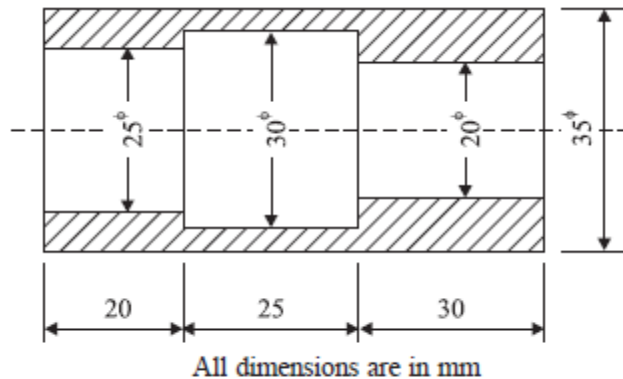

Fig. 3
- 8 (a) Estimate the time required on a shaper to machine a plate 600 mm × 1,200 mm, if the cutting speed is 15 meters/min. The ratio of return stroke time to cutting time is 2:3. The clearance at each end is 25 mm along the length and 15 mm on width. Two cuts are required, one roughing cut with cross feed of 2 mm per stroke and one finishing cut with feed of 1 mm per stroke. (8) BT2
- (b) Mild steel shaft 30 cm long is to be rough ground from 43.3 mm dia to 43 mm dia using a grinding wheel of 40 mm face width. Evaluate the time required to grind the job assuming work speed of 12 m/min and depth of cut 0.02 mm per pass. (8) BT5
- 9 Analyze the time required to manufacture the tapered cylindrical job of dimensions; minor diameter 30 mm, major diameter 80 mm and length 120 mm from a given round bar of 80 mm diameter and 120 mm length. Assume: (16) BT4
- 10 Examine the planing time for a casting 1.25 m long and 0.5 m wide which is machined on a planer having cutting speed of 12 m/min and a return speed of 30 m/min. Two cuts are required, one roughing with a depth of 3.125 mm and a feed of 0.1 mm/rev and other finishing with a depth of 0.125 mm and using a feed of 0.125 mm. (16) BT1
- 11 Estimate the time taken to prepare a job as shown in Fig. 3 from M.S (Mild Steel) stock bar 4 cm in diameter and 7.5 cm long. Assume the following data: (16) BT2